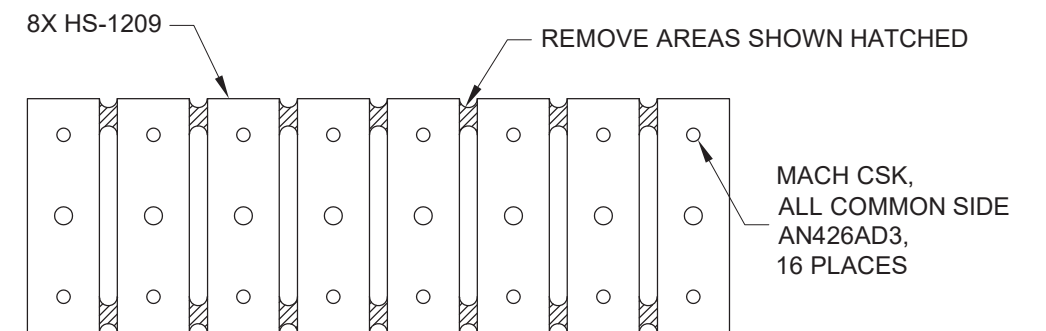

FIGURE 5:
Step 7: Machine countersink the #40 holes in the HS-1209 Spar Cap Spacers per the Figure 5 call-out.
Step 8: Separate the spar cap spacers by removing the material shown hatched in Figure 5.